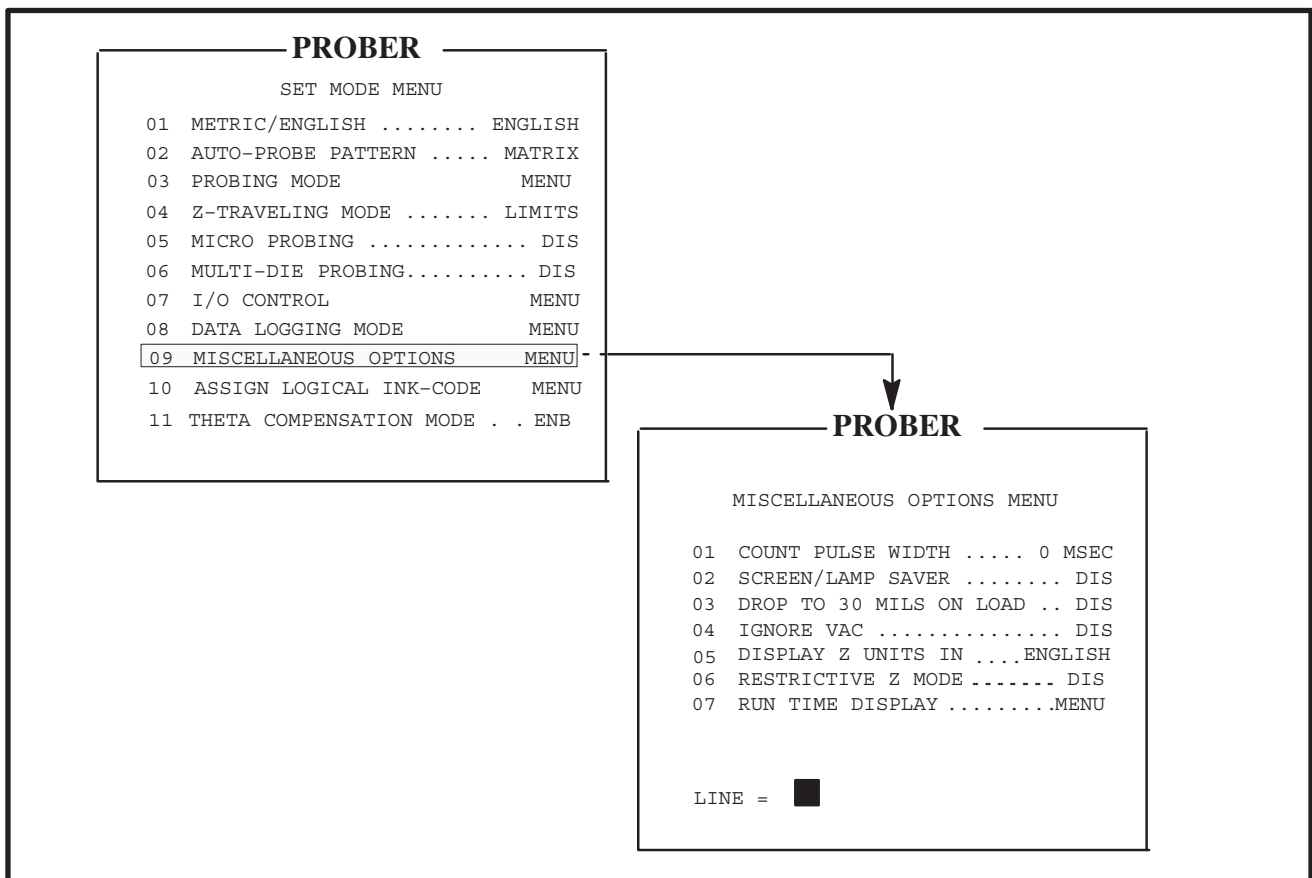

FIGURE 3-20: SET MODE AND MISCELLANEOUS OPTIONS MENU
The Miscellaneous Options Menu (*Figure 3-20*) is accessed through Line 09 of the Set Mode Menu. Items 01 and 02 are always accessible; items 03 and 04 appear only when AUTO LOAD SWITCH (the Material Handler) is disabled (see **Section 3.3, Set Option Menu**).